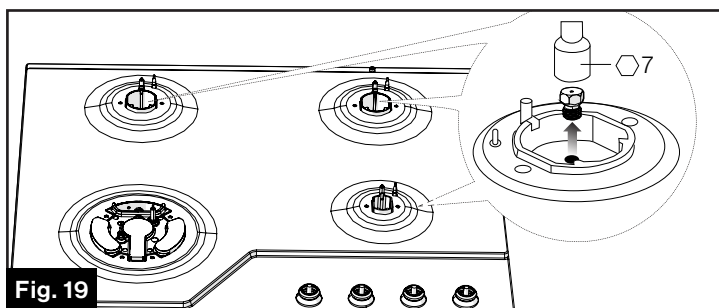

Fig. 19
2. Use a 7mm nut sleeve to remove the below 3 burner nozzles. (Fig. 19)